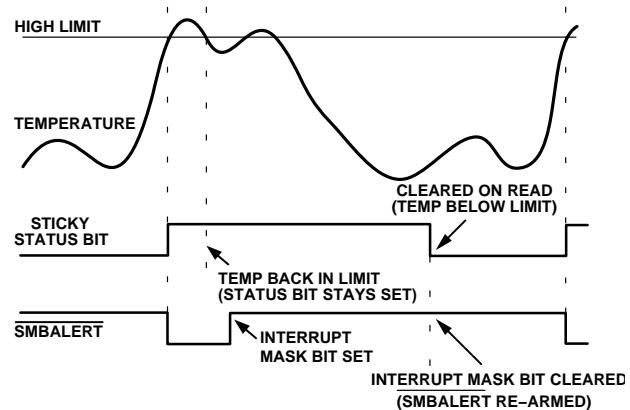

Figure 25. How Masking the Interrupt Source Affects SMBALERT Output
7. Periodically poll the status registers. If the interrupt status bit has cleared, reset the corresponding interrupt mask bit to 0. This causes the SMBALERT output and status bits to behave as shown in Figure 25.